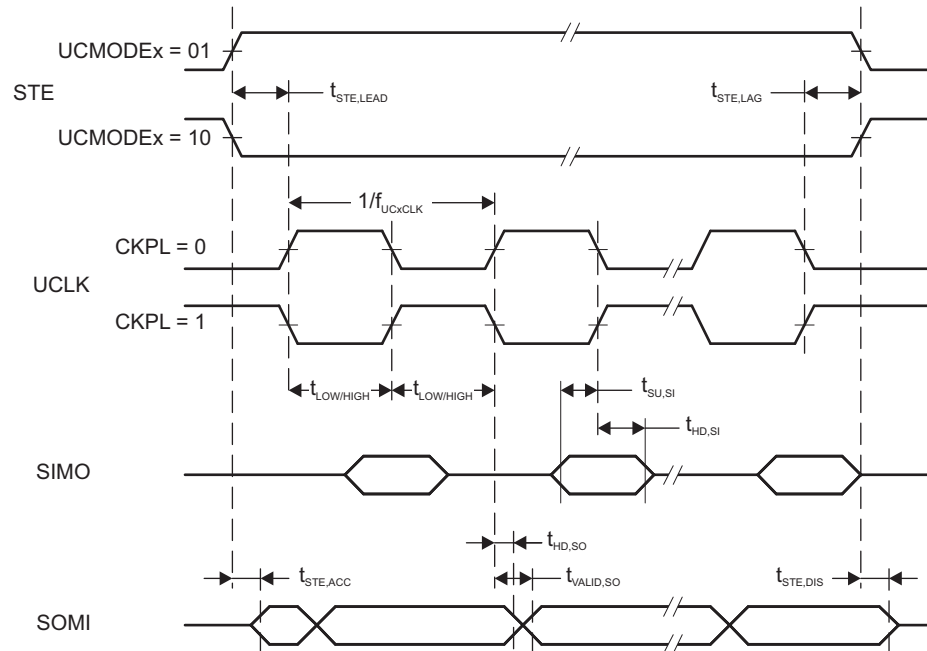
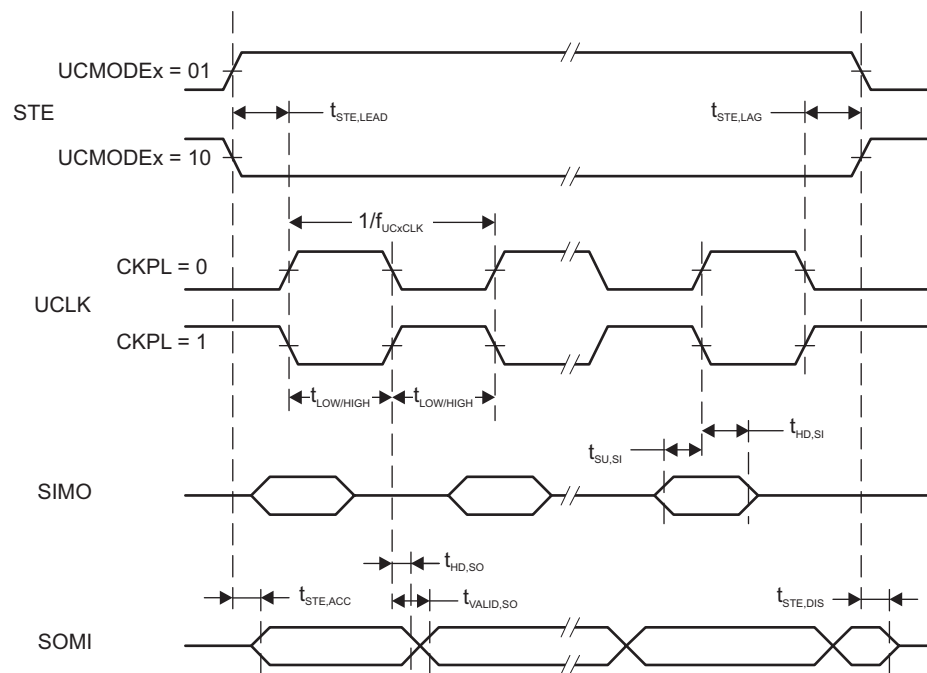

Figure 5-15. SPI Slave Mode, CKPH = 0
Figure 5-16. SPI Slave Mode, CKPH = 1
- (2) Specifies the time to drive the next valid data to the SOMI output after the output changing UCLK clock edge. See the timing diagrams in Figure 5-15 and Figure 5-16.
- (3) Specifies how long data on the SOMI output is valid after the output changing UCLK clock edge. See the timing diagrams in Figure 5-15 and Figure 5-16.